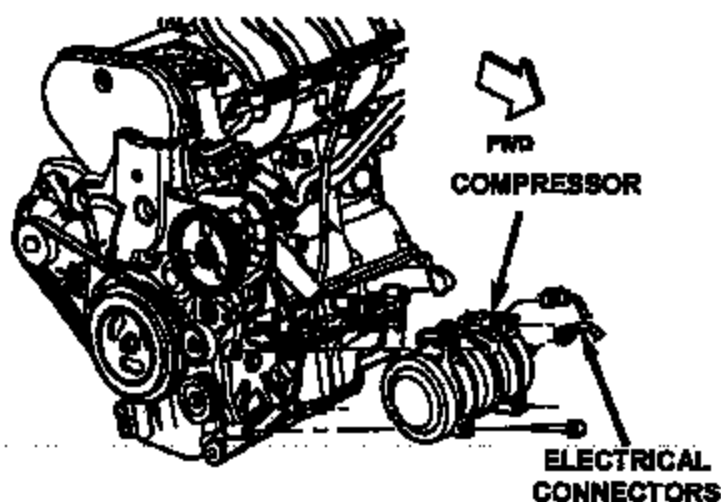

Figure 7
7. Remove the air conditioning (A/C) compressor drive belt (Figure 7).
8. Disconnect the two (2) A/C compressor electrical connectors (Figure 7).
9. Remove the four (4) A/C compressor bracket bolts (Figure 7) and set the compressor aside.
19. Install the A/C compressor (Figure 7). Tighten the compressor bracket bolts to 250 in-lbs (28 N·m).
20. Connect the two (2) A/C compressor electrical connectors (Figure 7).